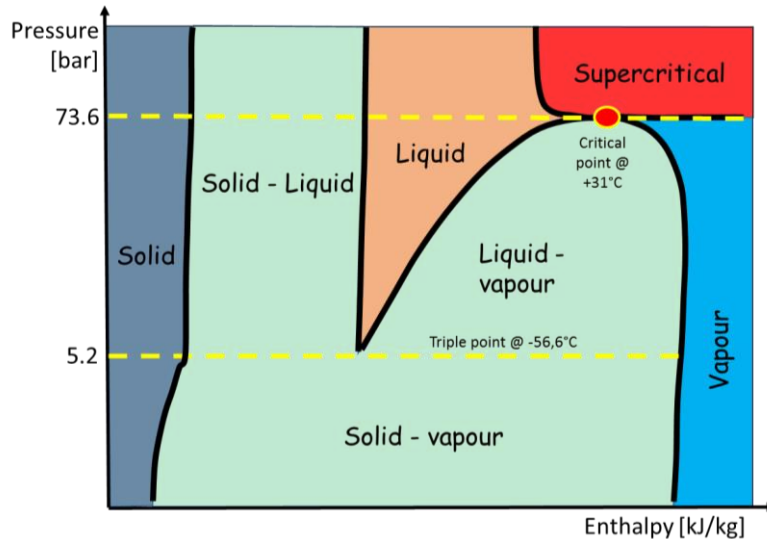

Figure 7: Pressure/enthalpy diagram CO2
**Figure 7** shows the thermodynamic properties (p-h-diagram) of R744. Compared to other fluids traditionally used as refrigerants, its critical point at 31 °C is very low and its critical pressure at about 73.6 bar is high.